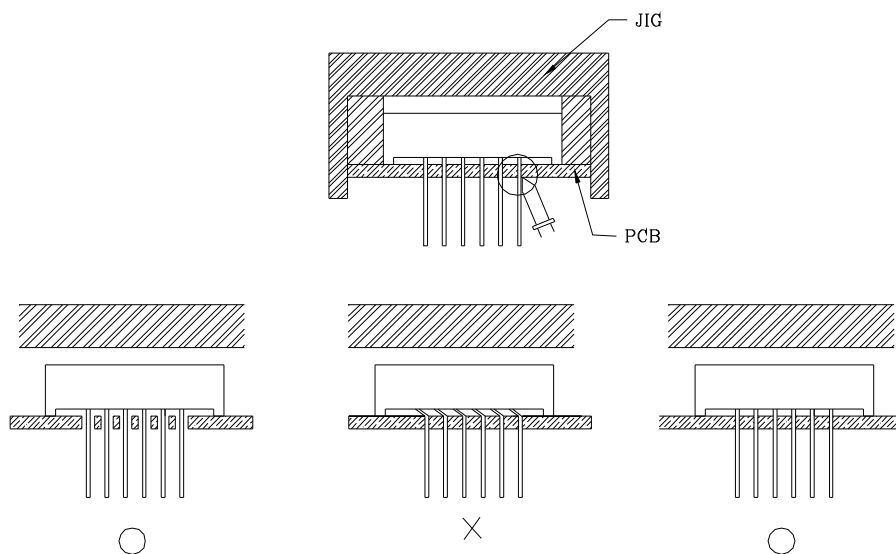

Fig.3
- 1) When mounting the Display by using a case, as shown Fig.3, ensure that the mounting holds on the PC board match the pitch of the PIN correctly—tolerance of dimensions of the respective components including the Display should be taken into account especially when designing the case, PC board, etc. to prevent pitch misalignment between the PIN and board holes, the diameter of the board holes should be slightly larger than the size of the PIN. Alternatively, the shape of the holes should be made oval. (See Fig.3)